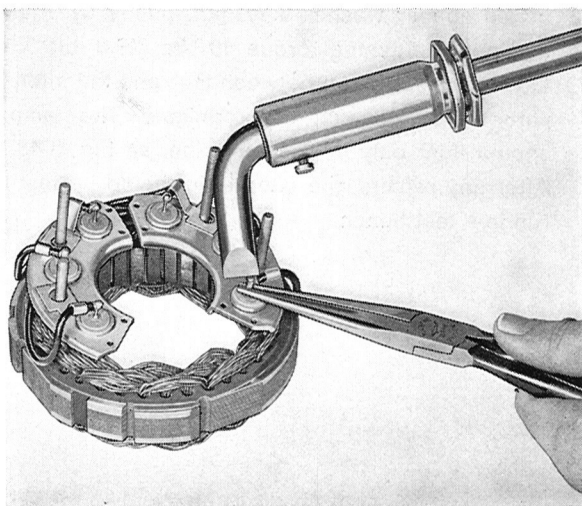

Fig. 3-39. Soldering on diodes
3. Solder on the diodes, see Fig. 3-39.